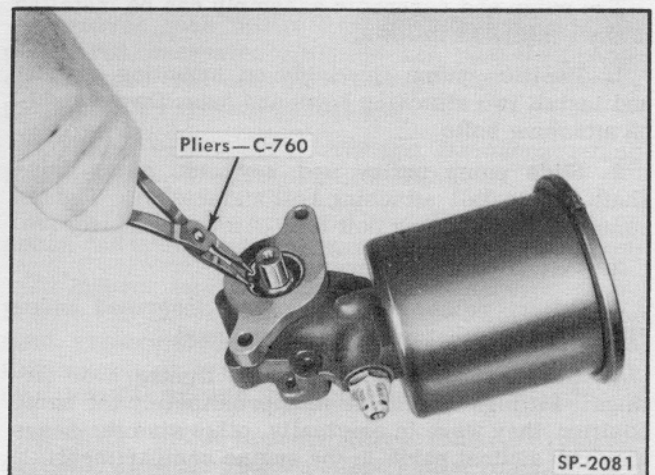

Fig. 15—Removing Bearing Snap Ring
9. Remove bearing snap ring from pump body using Snap Ring Pliers C-760 (Fig. 15).